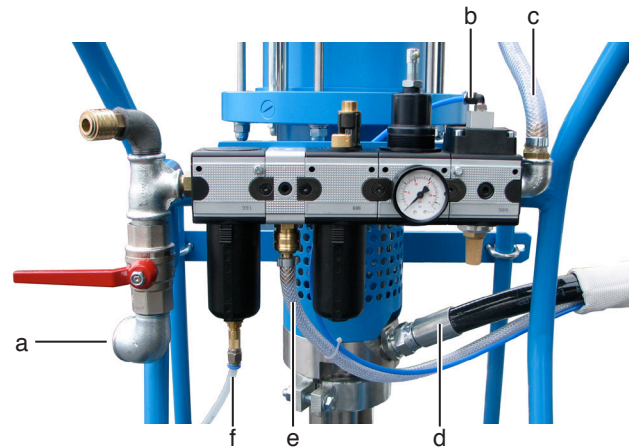

Fig. 5.3
2. Connect the atomizer air hose (e) and the control air pipe (b) to the air maintenance unit (Fig. 5.3).
3. Connect the material hose (d) to the pump (Fig. 5.3).
5. Connect the on-site air hose (a) (Fig. 5.3). Keep the compressed air shut-off valve closed.